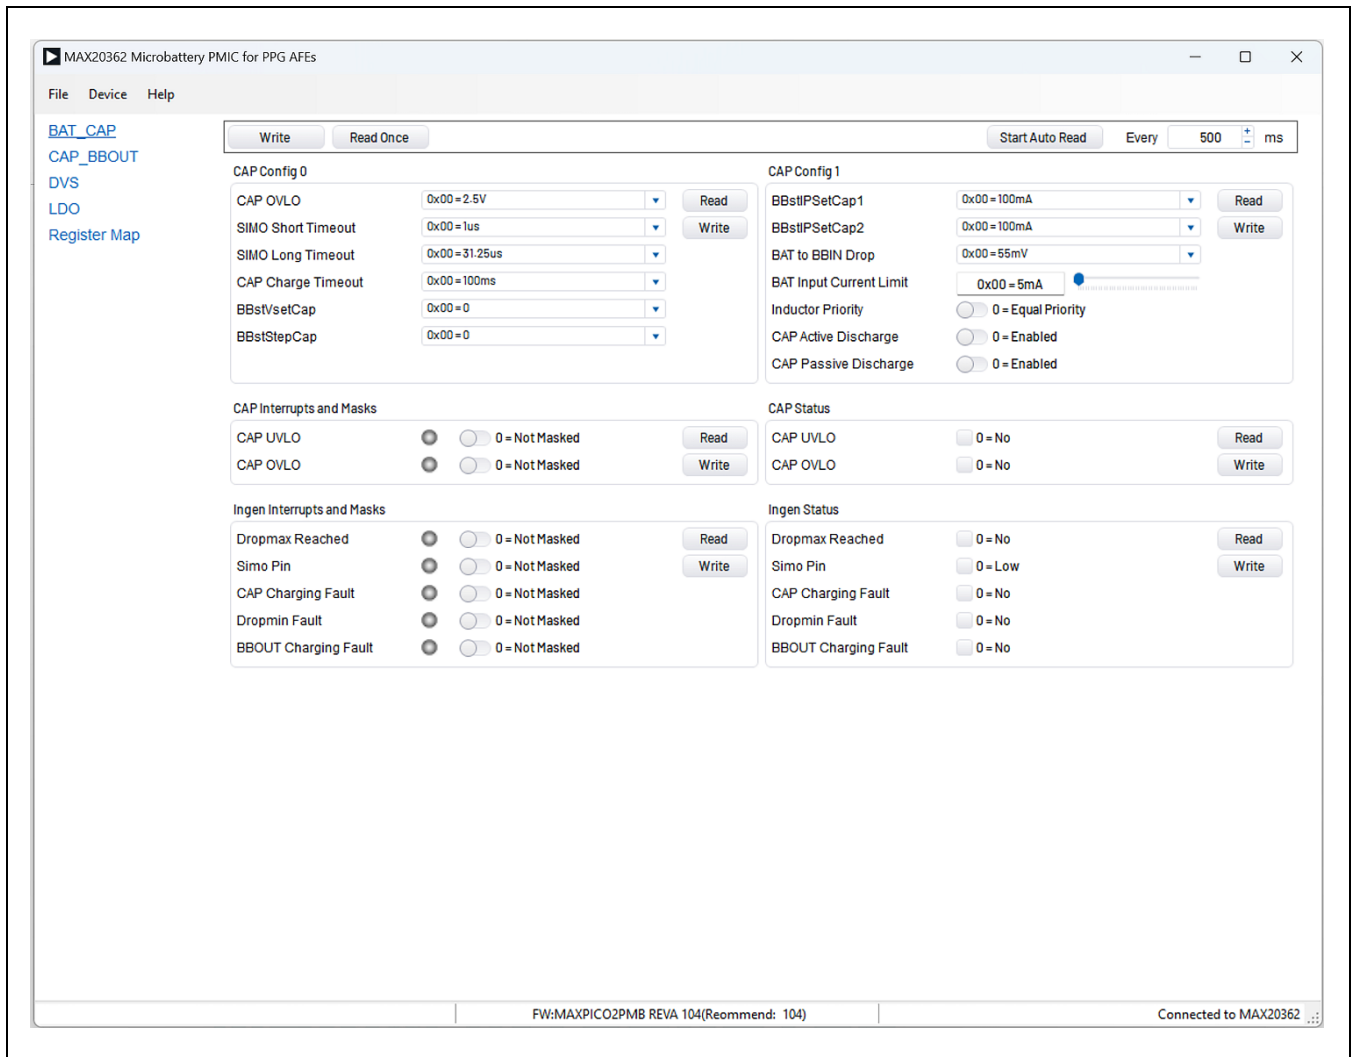

Figure 2. MAX20362 EV Kit Board Connections
7. On the computer, open the MAX20362 GUI. The status bar at the bottom shows **Connected to MAX20362**, as shown in Figure 2.